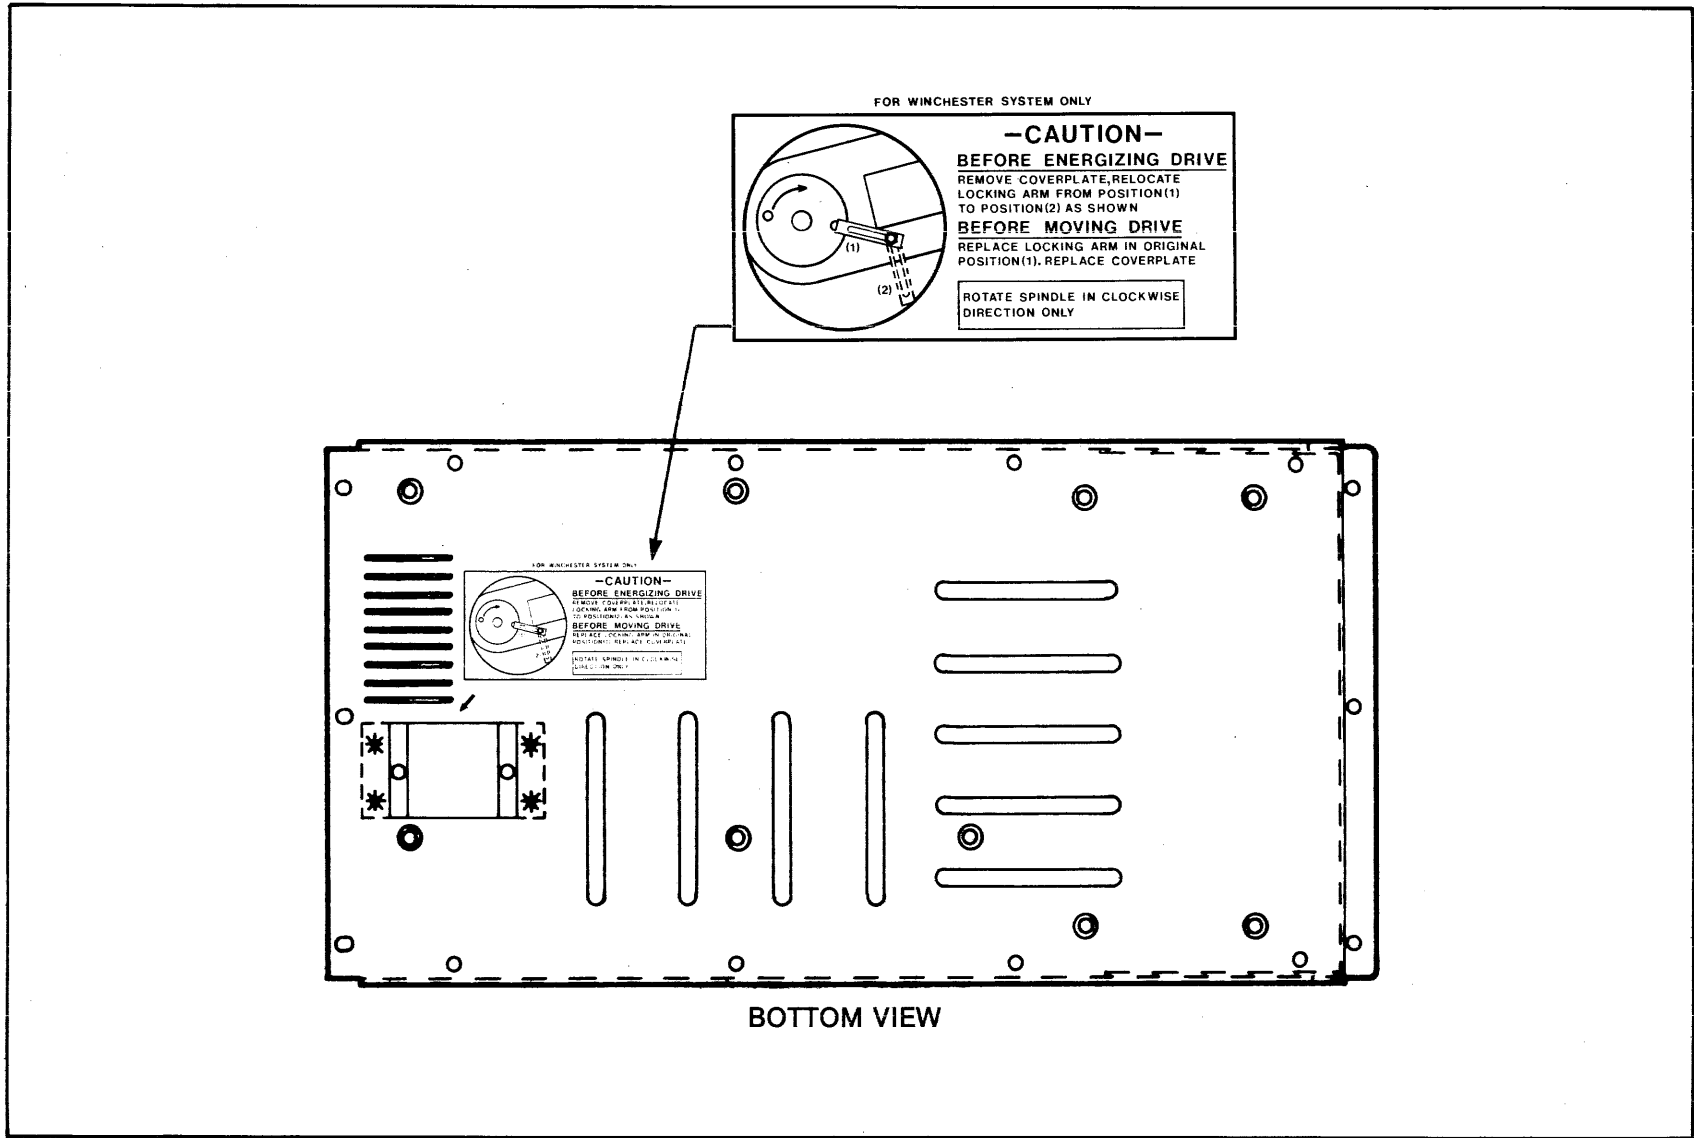

Figure 2-3. Bottom View of Cabinet
- a. Remove the cover plate. Note the instructions on the bottom cover (figure 2-3).
- c. Replace the spindle lock in the second slot provided, as shown in figure 2-3. Tighten the lock in place to prevent loss. Replace the cover plate.